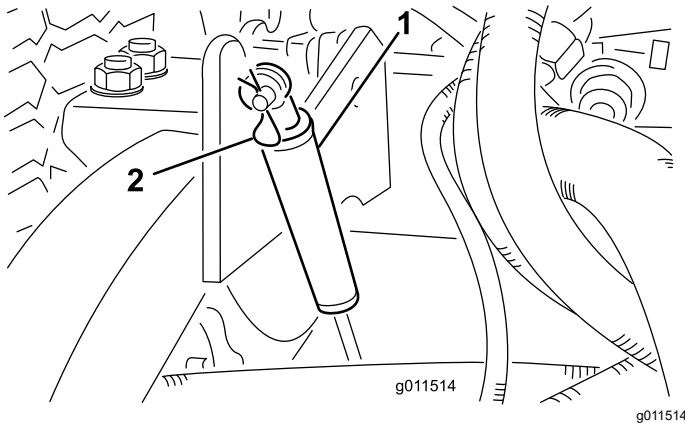

Figure 121
2. Remove the hairpin cotter securing the dampers to lift arms (Figure 121).